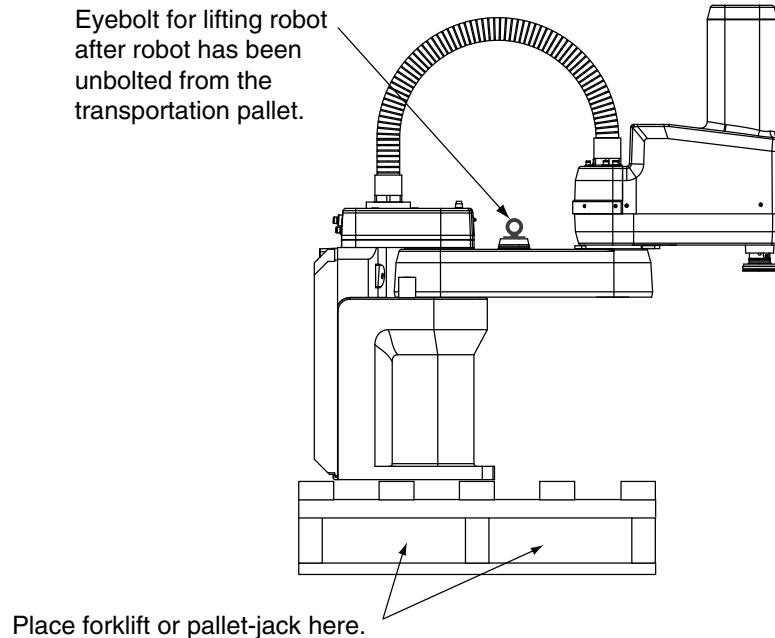

Figure 2-1. Cobra s600 Robot on a Transportation Pallet
2. While the robot is still bolted to the transportation pallet, connect the hydraulic lift to the eyebolt at the top of the inner link (see Figure 2-1). Take up any slack, but do not lift the robot at this time.